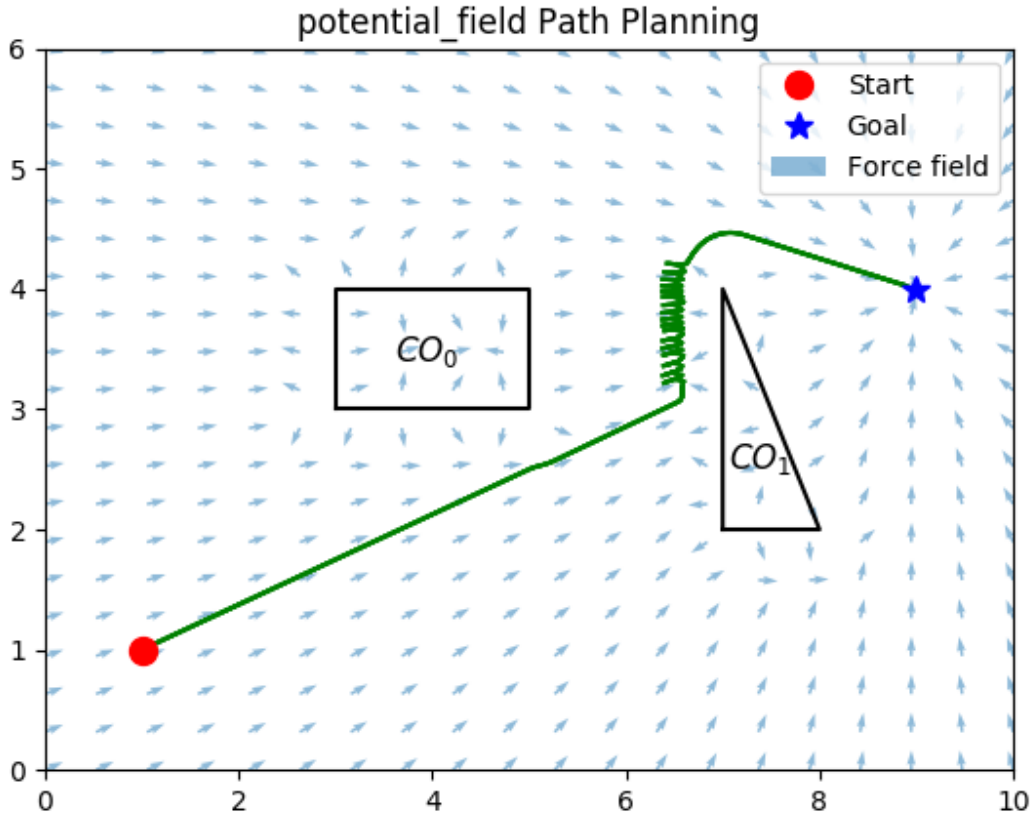

Fig. 2 Potential Field
a) For potential field (Figure 2) I chose the conic attractive force a repulsion over all the edges of my obstacle, and stochastic gradient descent. To overcome the local minimum at the top of the triangle I implemented a heuristic given by traveling perpendicular to the repulsive force, if there has been no progress for the last 5 steps, ie, if the total distance in 5 steps is less than some threshold.